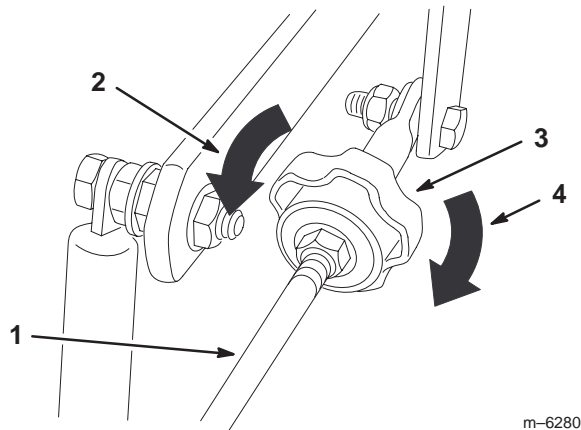

Figure 56
4. To make the machine go right, turn the knob towards the rightside of the machine. Refer to figure 56.
5. To make the machine go left, turn the knob towards the leftside of the machine. Refer to figure 56.